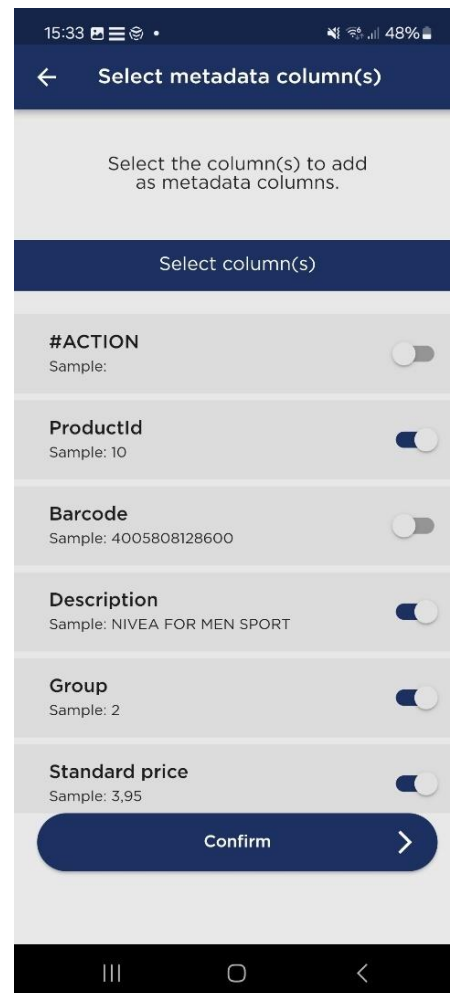

Figure 8-7: The *Select metadata column(s)* page.
- After selecting the barcode column, you can choose additional columns from the CSV file to include as metadata. This metadata will be associated with the scanned entry along with the barcode, providing extra information such as product description, group, standard price, etc. Select the desired columns and press **Confirm** to complete the process (see Figure 8-7).